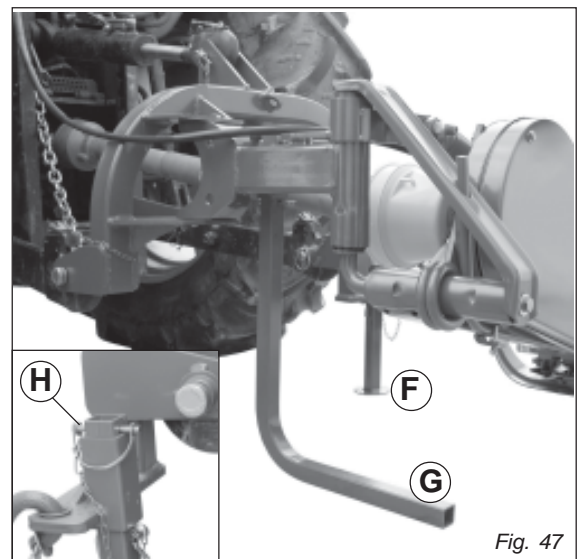

Fig. 47
2. Put parking stand (F and G, Fig. 47) in the DOWN position: install spring locking pin in order to secure parking stand (H, Fig. 47).